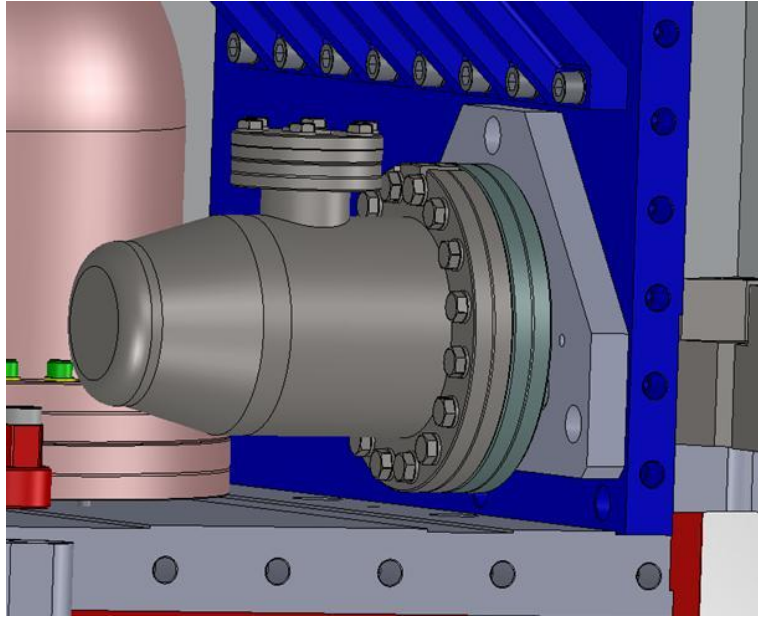

Figure 161: Horizontal L4C attached on Stage 1
(3) 3/8 Vented Washers – UCC WFV-38
- Attach D0902283 Interposer Plate onto D0902278 L4C Wall as shown on Figure 161.